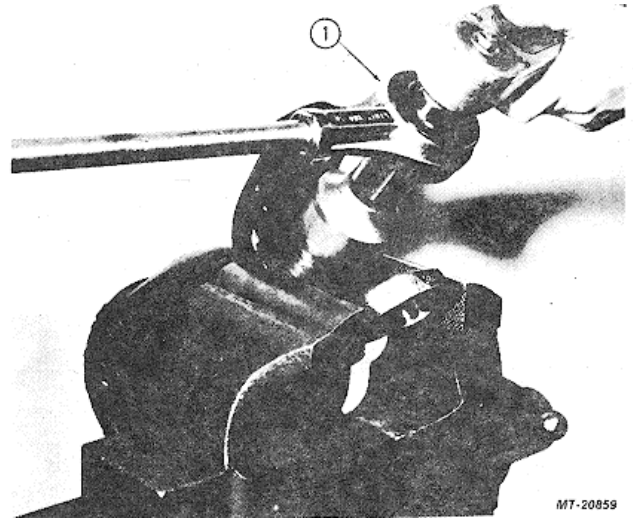

Fig. 6. Removing Input Flange Nut
1. Secure input (companion) flange with a flange holder tool or by clamping in vise (Fig. 6).
2. Use torque multiplier wrench (SE-1933) as shown in Fig. 6 and remove input flange nut.